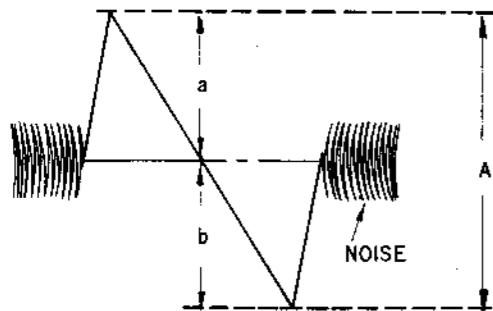

Fig. 3-6 "S" Curve Response
- (2) Adjust the scope controls to provide a visible indication.
- (3) Turn the top core of T201 with the hexagonal-head alignment tool to obtain an "S" curve response as shown in Fig. 3-6.
- (4) Turn the bottom core of T201 to obtain maximum response.
- (5) Turn the top core of T201 to equalize negative and positive peakes as shown in Fig. 3-6.